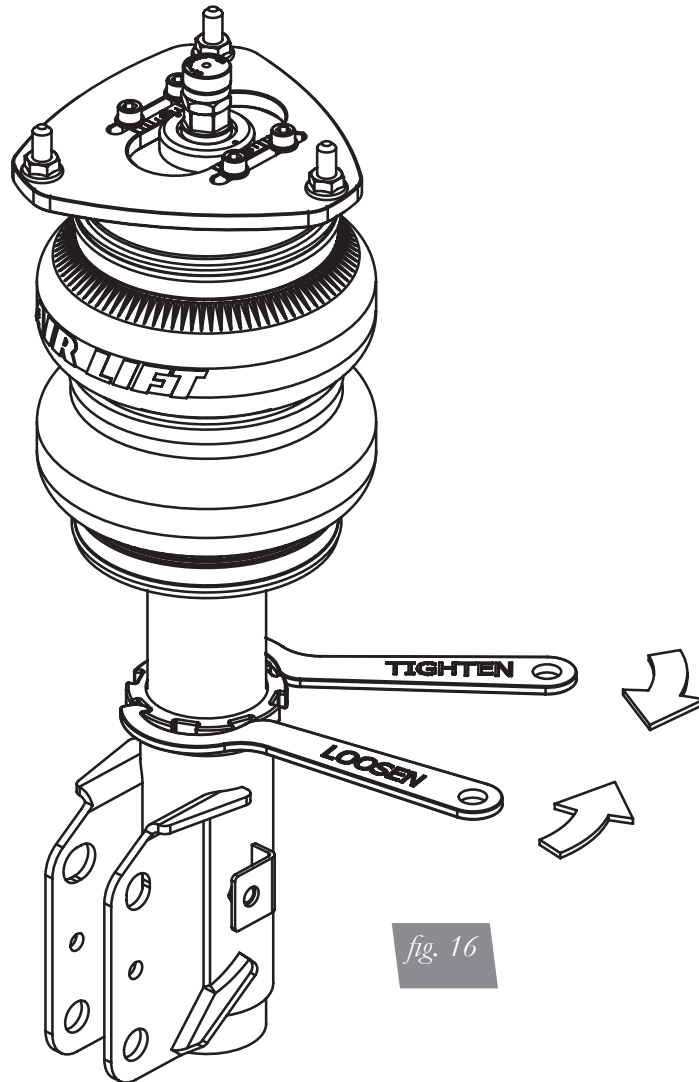

fig. 16
3. Using the supplied spanner wrench, loosen the lower locking collar (fig. 16).